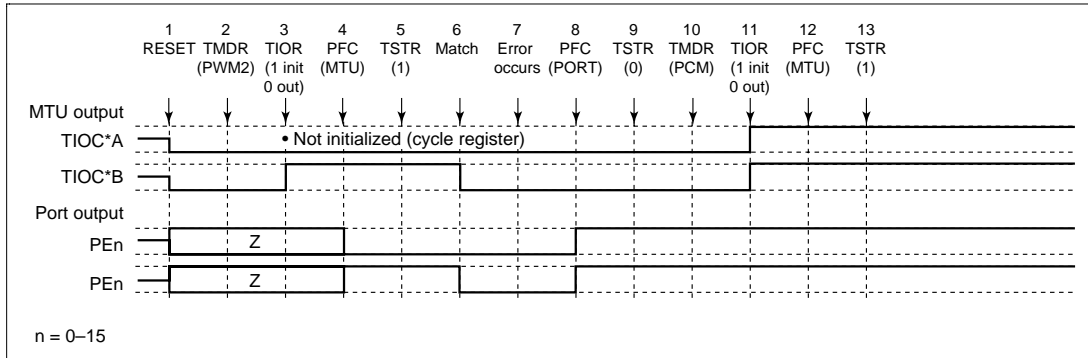

Figure 10.72 Error Occurrence in PWM Mode 2, Recovery in Phase Counting Mode
(12) Operation when Error Occurs during PWM Mode 2 Operation, and Operation is Restarted in Phase Counting Mode: Figure 10.72 shows an explanatory diagram of the case where an error occurs in PWM mode 2 and operation is restarted in phase counting mode after re-setting.